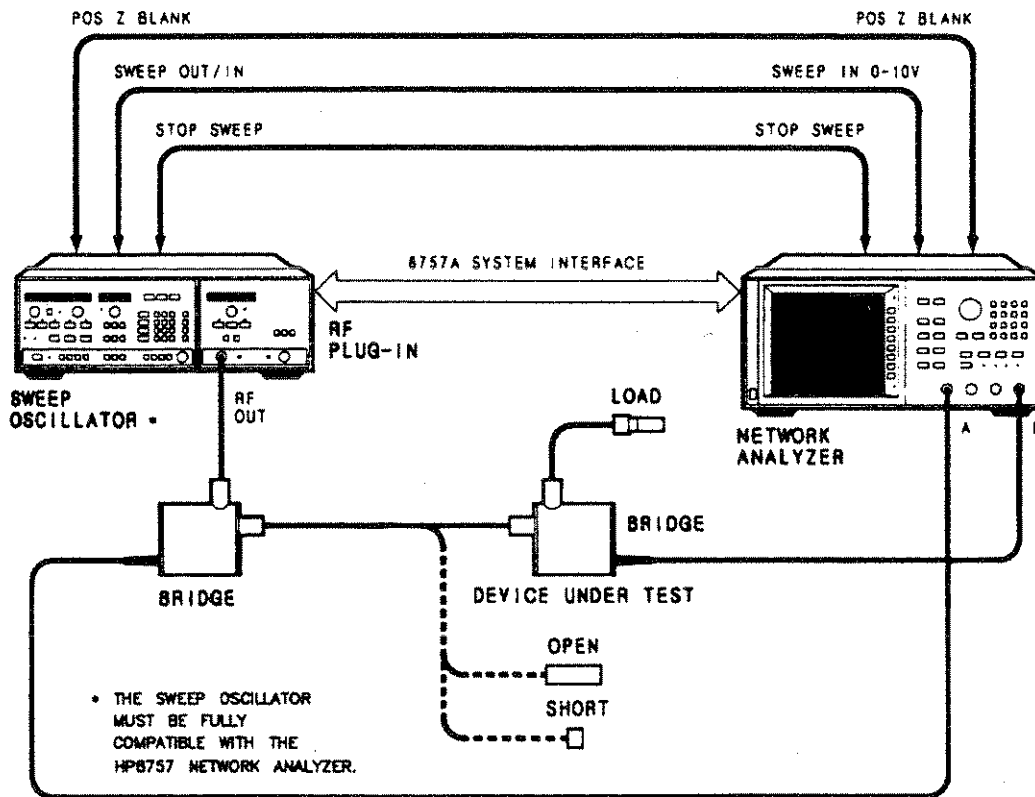

Figure 4-1. Test Port Match Performance Test Setup
Using a typical reflection measurement setup, as shown in Figure 4-1 a second directional bridge is used to measure the TEST PORT of the bridge under test. The bridge under test must be biased by the HP 8757 and its RF IN PORT must be properly terminated.
1. Set up the equipment as shown in Figure 4-1, with the calibrated open connected to the test directional bridge, not the directional bridge under test.